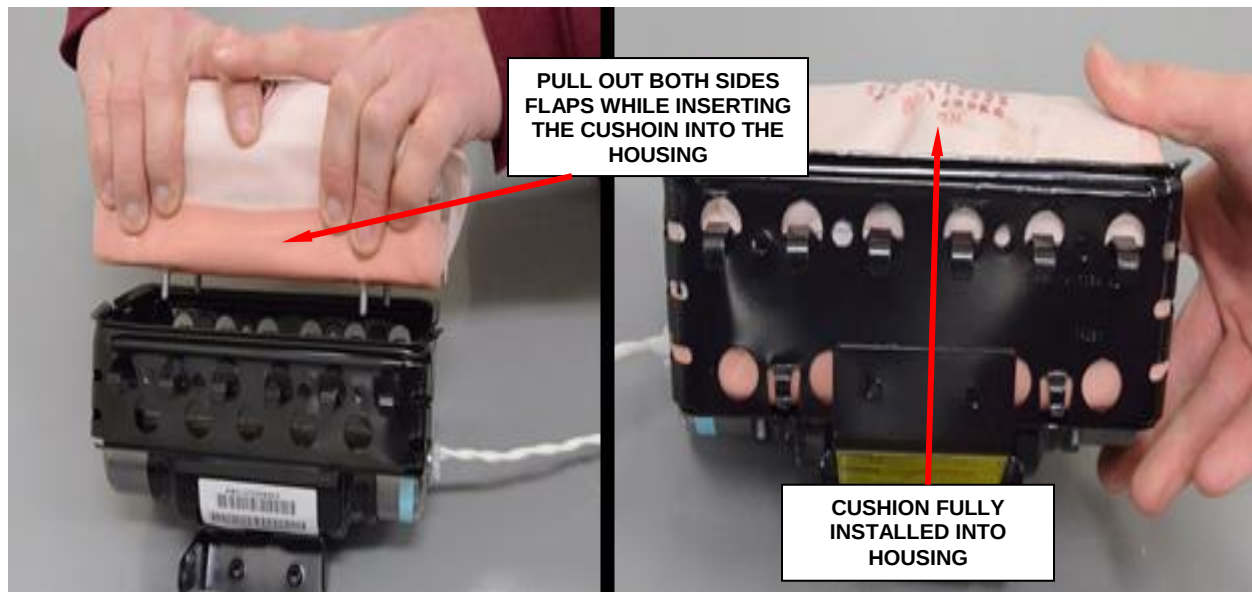

Figure 153 - Side Flaps Must Be Held Out
- f. Slide the inflator out of the passenger airbag module (Figure 153).